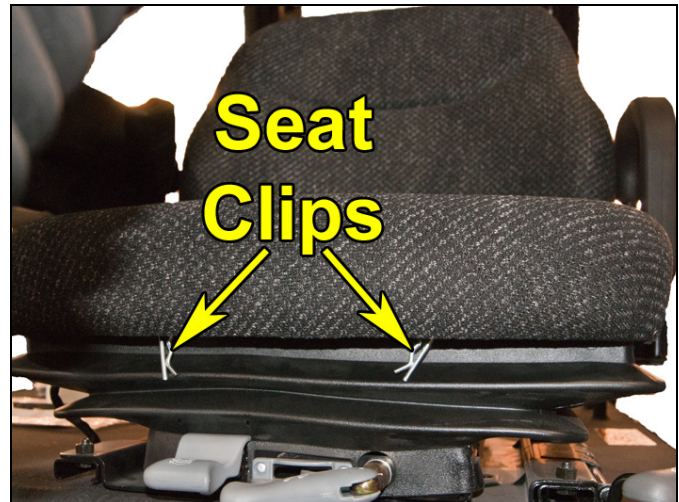

Figure 3-45: Seat Switch See Figure 3-45
4. Remove the two seat clips from the under the front of the seat cushion (See Figure 3-45).